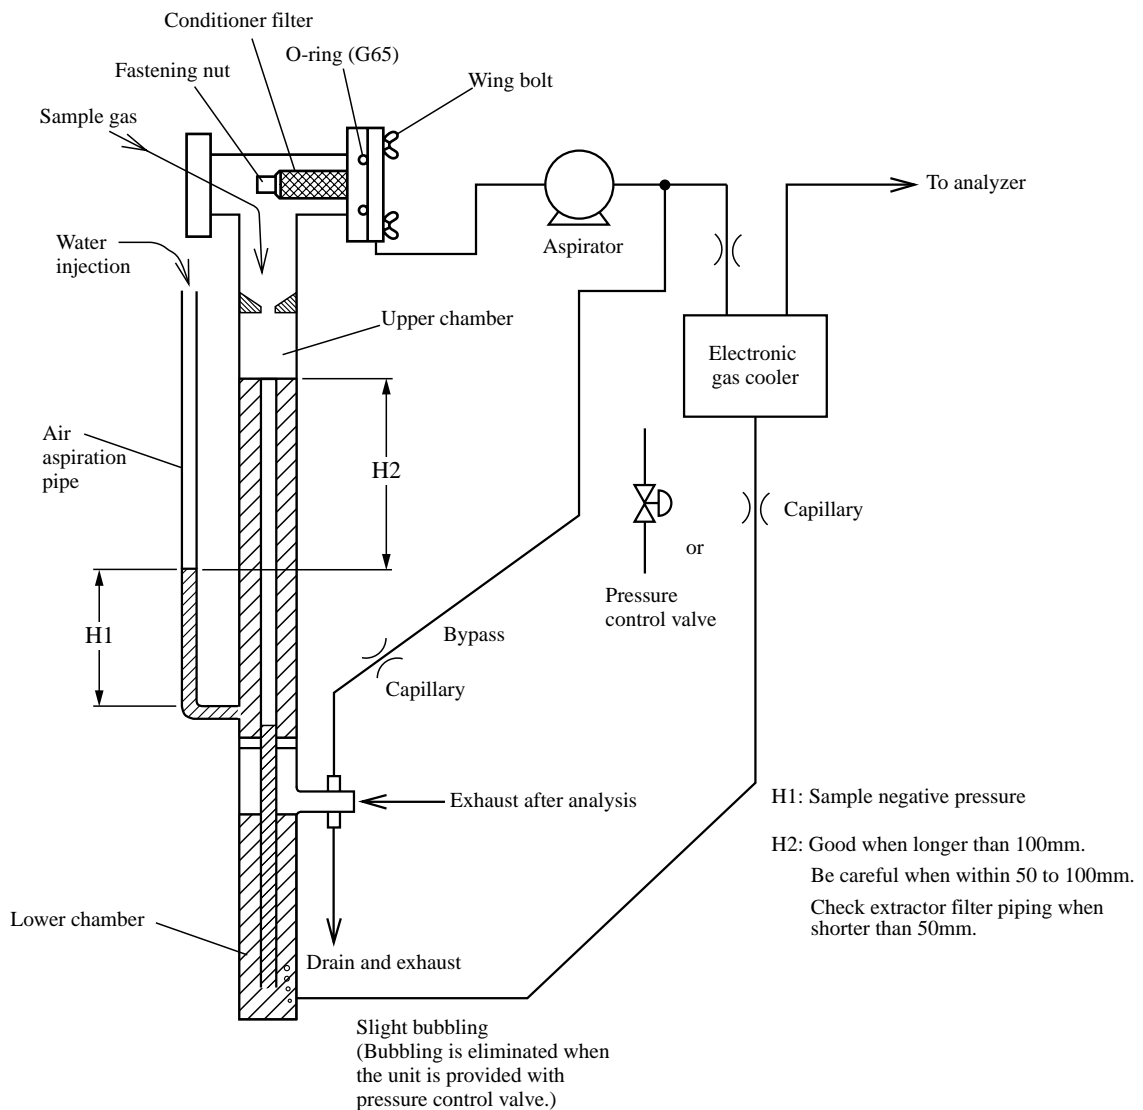

Fig. 10-1 Conditioner
Conditioner Air aspiration tube level	Good if H2 level shown in Fig. 10-1 is longer than 100mm. If air is aspirated through the air aspiration tube, then the pressure loss at the stage before the conditioner filter has become large. Check the gas extractor filter (see (1) in 10.5) and gas pipes for clogging.
- (2) Replacement of mist filter element (See Fig. 10-1.)
- (3) Replacement of membrane filter element